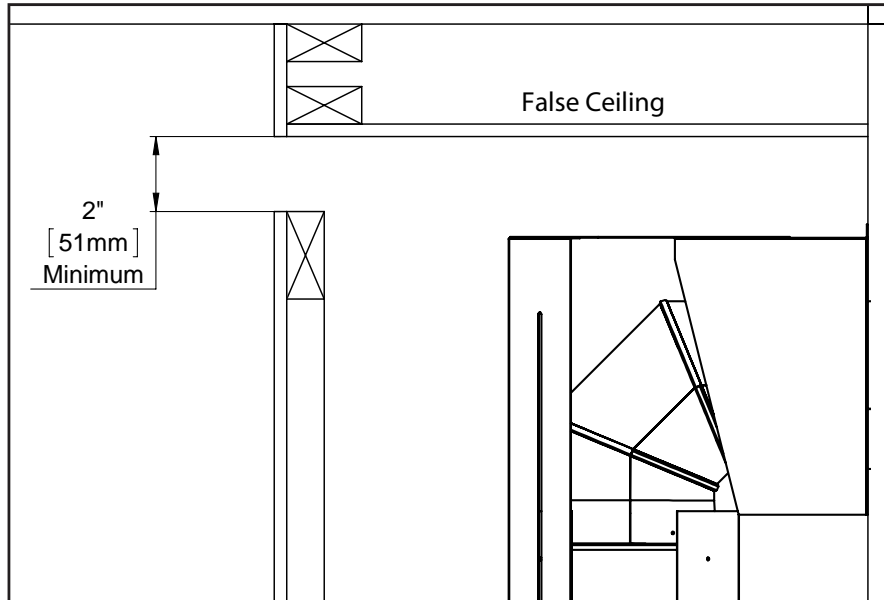
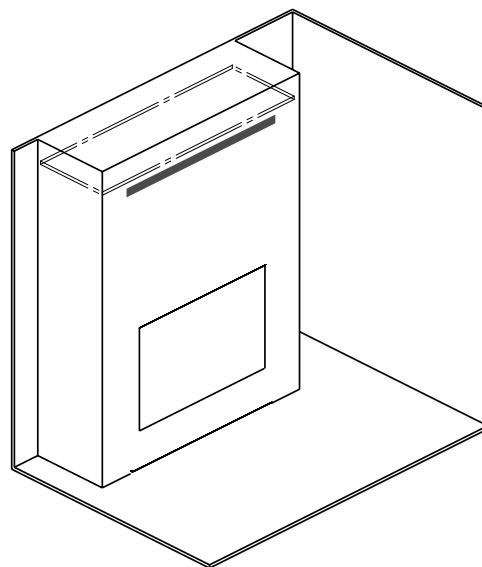
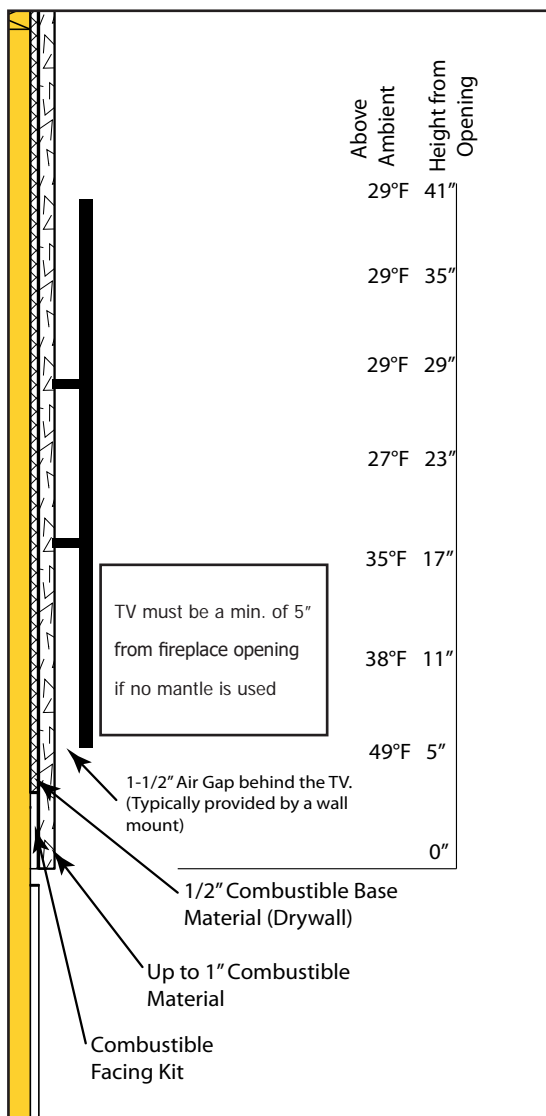
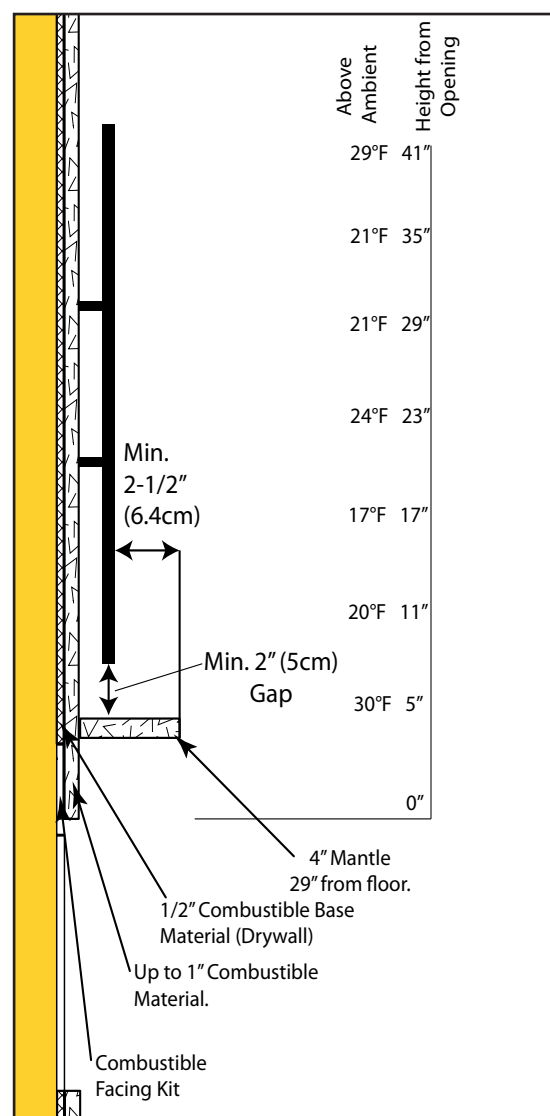

Figure 26: False Ceiling
Figure 27: False Ceiling Iso View
Figure 31: CSS TV Clearances
Figure 32: CSS TV Clearances
If your ceiling dimension is greater than the minimum (figure 27) You may want the CSS Air discharge lower on the wall. To do this a false ceiling is required to properly evacuate the heat from the chase (figure 26).
**During testing temperatures did not exceed 121°F (49°C)** midway up the front wall (Figure 31 & Figure 32). There is no guarantee that these temperatures will not harm the longevity of your TV. Make sure to consult your TV manufacturer's specifications to find the maximum allowable operating temperature. Since every home and installation is unique, temperatures should be verified at the time of install if possible. If desired, front wall temperatures can be lowered to 104°F (40°C) with the use of a mantle (Figure 26). Refer to page 27 for revised mantle clearances. A TV should not be installed if temperatures exceed the manufacturers maximum allowable temperature.